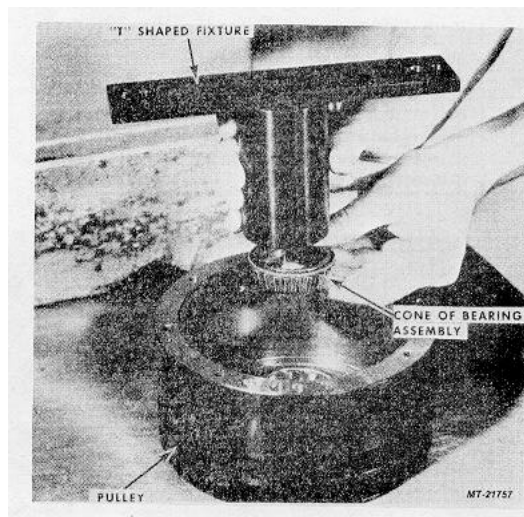

Fig. 65
28. Install the cone of Bearing Assembly in the cup of the assembly. Place "T" shaped fixture SE-2782-5 on the Bearing, Fig. 65.